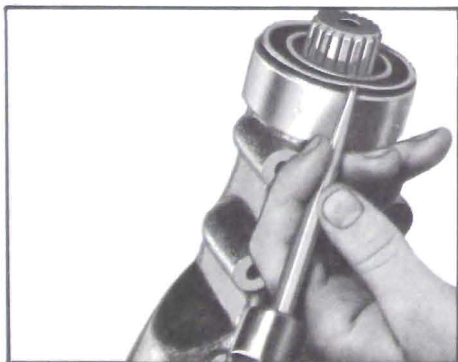

Figure 4-123—Removing Extension Oil Seal
7. Remove case extension oil seal. See (Figure 4-123).